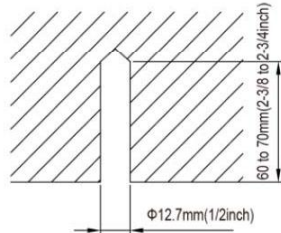

Fig. 4.3
1. Install the bolts to the ceiling at a location strong enough to hang the unit. Mark the bolt positions from the installation template. Drill four 12.7mm (1/2") diameter holes. (Fig. 4.3)